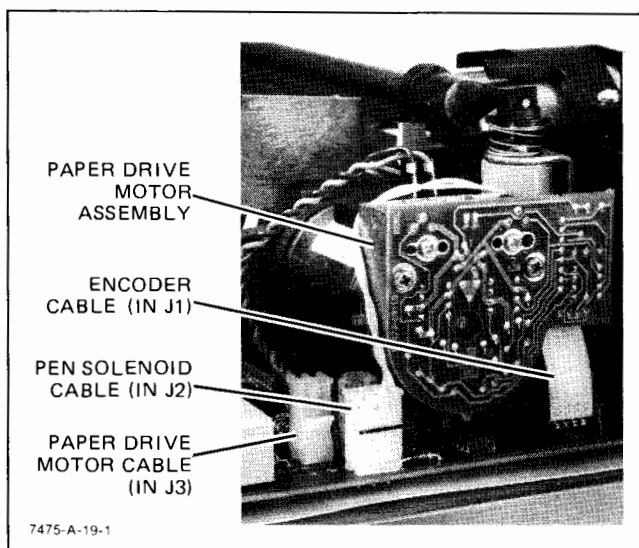

Figure 6-10. Paper Drive Motor and Solenoid Cables
- b. Disconnect the paper drive motor cable (twisted pair) from J3 and the flat encoder cable from J1 on the main printed circuit assembly. See Figure 6-10.
- c. Disconnect the solenoid cable from J2 on the printed circuit assembly. See Figure 6-10.